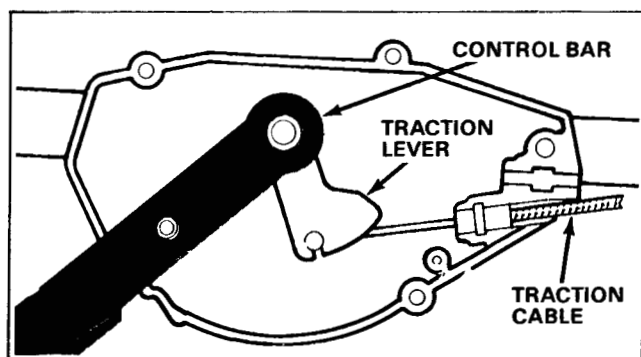

Figure 81
2. Slip the end of the traction cable into the traction lever then place the control housing, traction lever, and the control bar into position as shown in Figure 81. Once in position, slide the carriage bolt through all three components.